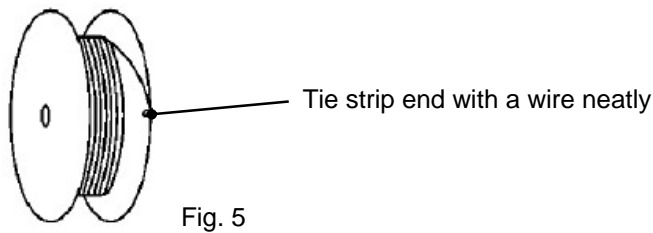

Fig. 5
- (3) Avoid storing the contact reel in a moist or dusty place. Stock the reel in a comparatively dry and clean place (5~35 °C, 45~85%RH) away from direct sunlight.
- (4) When removing the contact reel from the machine, fasten the end of contact strip onto the edge of the reel with use of proper string or wire. (See Fig. 5)